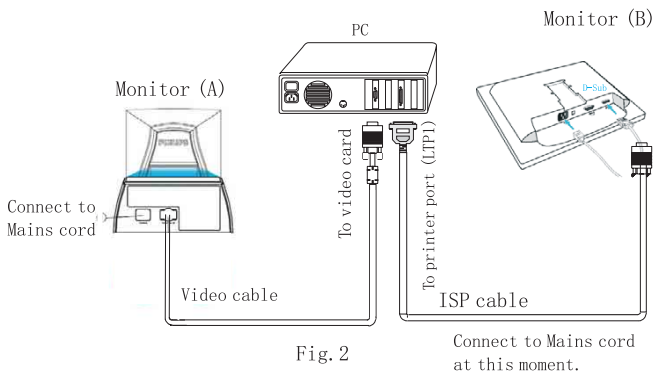

Fig. 2
5.Connect ISP cable and main cord to monitor as shown in Fig.2.